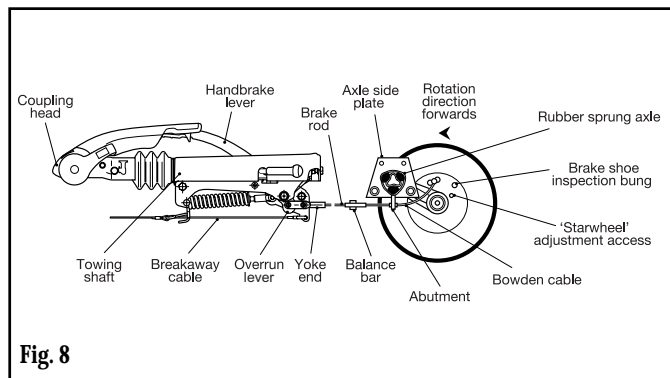

Fig. 8
- i. Ensure the towing shaft with coupling heads is pulled fully forward (fig. 8).
- ii. Release the handbrake to the fully off position. If the handbrake will not go down the whole way because of the fairing or any other obstruction; then the fairing must be cut away and/or the obstruction removed to achieve this desired position. It will not be possible to set up the braking system properly when the handbrake is not in the fully off position (fig. 8).
- iv. Remove the inner plastic bung from the backplate to expose the 'starwheel' adjuster access (figs. 8 & 9).
- vii. Check the adjustment at the end of the brake cable where it is secured to the abutment (bracket) welded to the centre of the axle. When the inner cable is pulled out it should extend between 5 and 8 mm (fig. 8). (On tandem axles a double abutment is fitted to the front axle only).
- x. Ensure the balance bar (compensation) is being pulled evenly. This bar (double on tandem axles) should always be paralleled with the axle tube when pulled (figs. 8 & 10). Adjust M8 lock and ball nuts, if necessary, to achieve correct parallel position (fig. 10).
Over adjustment to the long ball nut (Fig 10), could induce movement of the inner brake cable, reducing the effective clearance of the brake shoes. If the over run lever will not make contact, it is possible the two lock nuts, forward of the spring cylinder, are incorrectly adjusted. Loosen the nuts and adjust the brake rod as above (Figs 8 & 10).